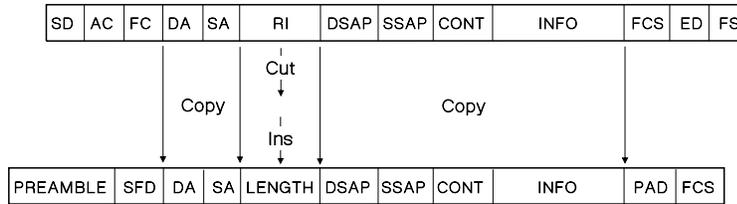

Figure E-4. Token-Ring to IEEE-802.3-Ethernet Frame Conversion
The conversion from a token-ring frame to an IEEE 802.3 Ethernet frame is represented in Figure E-4. In this conversion, only the routing information (RI) is extracted from the token-ring frame and discarded. The destination address (DA), source address (SA), and 802.3 INFO information is copied into an IEEE 802.3 frame, a LENGTH field calculated by the 8229 is inserted into the frame, and the frame is sent to the IEEE 802.3 Ethernet LAN.